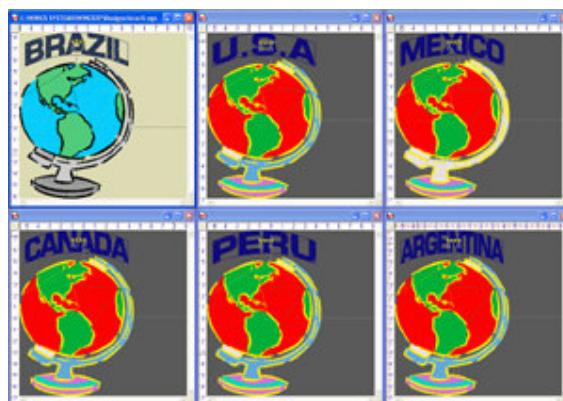

Figure 10.18: Step 4
4. Click “Ok” button to create the name drops (Figure 10.18).